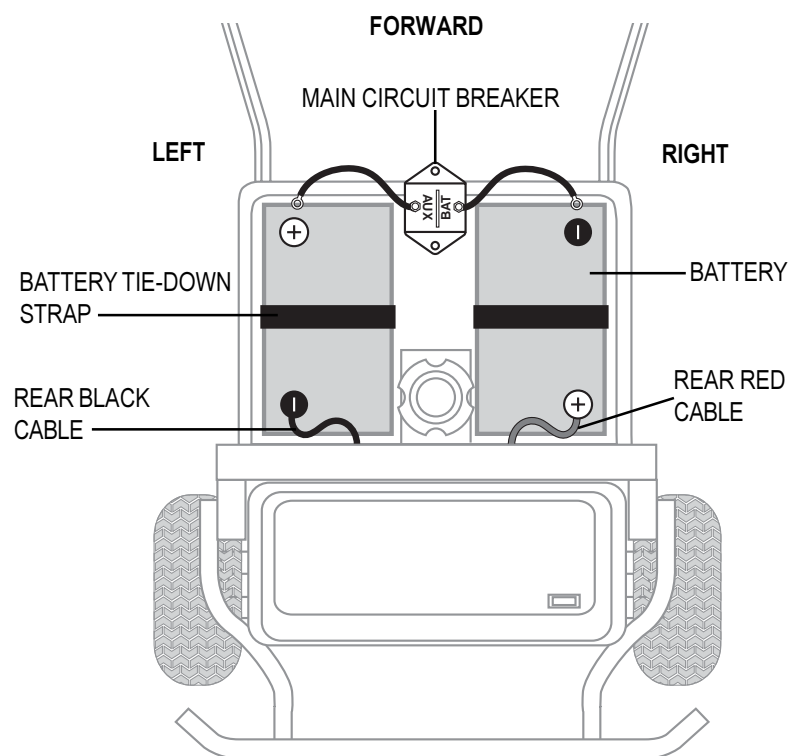

FIGURE 9. PLACING AND REMOVING BATTERIES
2. Place the batteries into the battery wells. Be sure that the positive (+) terminal of the left side battery and the negative (-) terminal of the right side battery are facing forward. See figure 9.